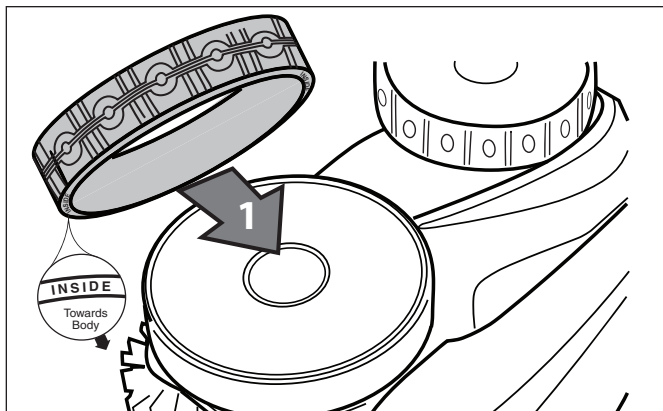

Figure 38. Tire Replacement Orientation
- To replace the tire, position the tire on the wheel making sure to orient the tire so that the tread is on the outer side of the wheel. See Figure 38.